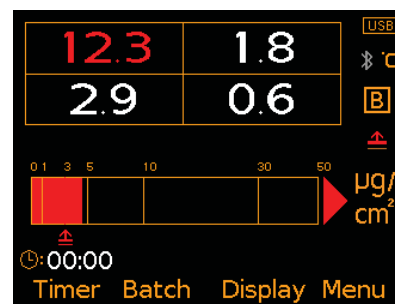

Fig. 5: Readings x4 & Bar Graph
- Bar Graph** (Fig. 5); An analogue representation of the current measurement value together with the highest (Hi), lowest (Lo) and average (\bar{x}) reading. The graph is updated automatically when each reading is taken.